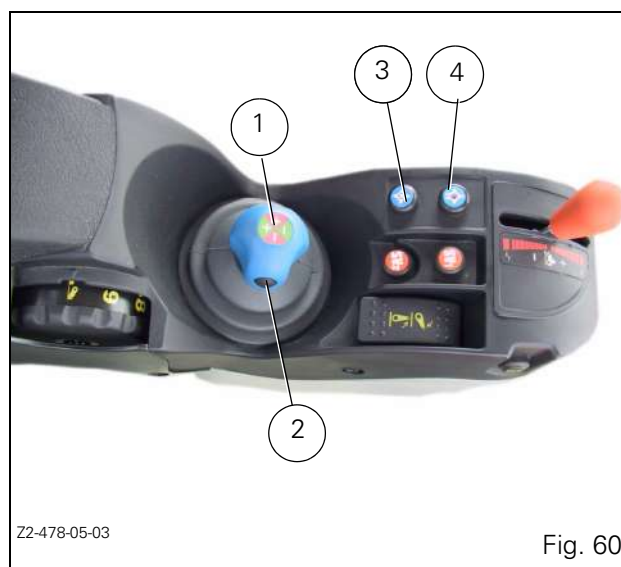

Fig. 60
move the Joystick in the desired direction(s) and briefly press button 3, (Fig. 60) to record and set the flow.
1. Press button (4 Fig. 60) to make the EHS controls operational, the red indicator light goes out, (on the optional Datatronic 3 fitted the lock icons disappear